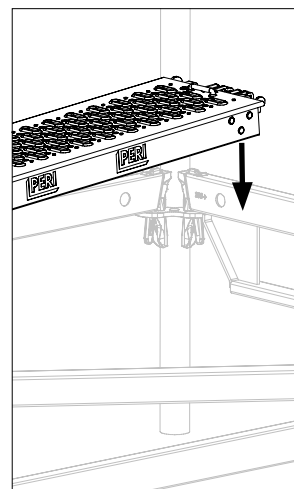

Fig. A9.04
2. Insert and engage the rear end of the first deck into the Ledger UH of the second frame. (Fig. A9.04)